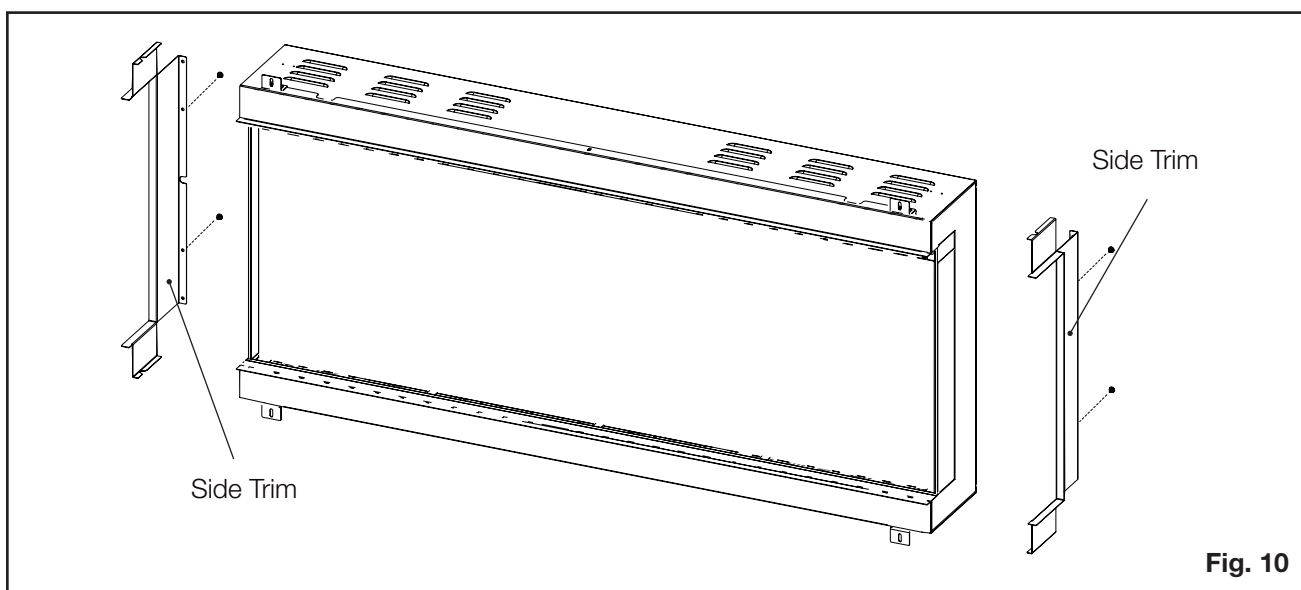

Fig. 10
3. For desired closed side, remove the screws from the back and bottom of the fireplace which align with the panel then secure the panels using the metal screws provided (**Fig. 10**).
4. Secure both side trims by removing the screws from the back of the fireplace which align with the trim then secure the trim using the metal screws provided. (**Fig. 10**).